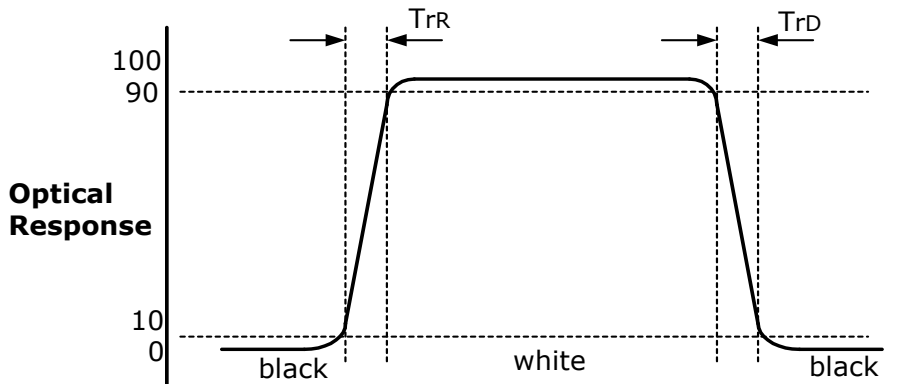

FIG.8 Response time
4. Response time is the time required for the display to transition from black to white (Rise Time, TrR) and from white to black (Decay Time, TrD). For additional information see FIG 8. **(By RD-80S)**